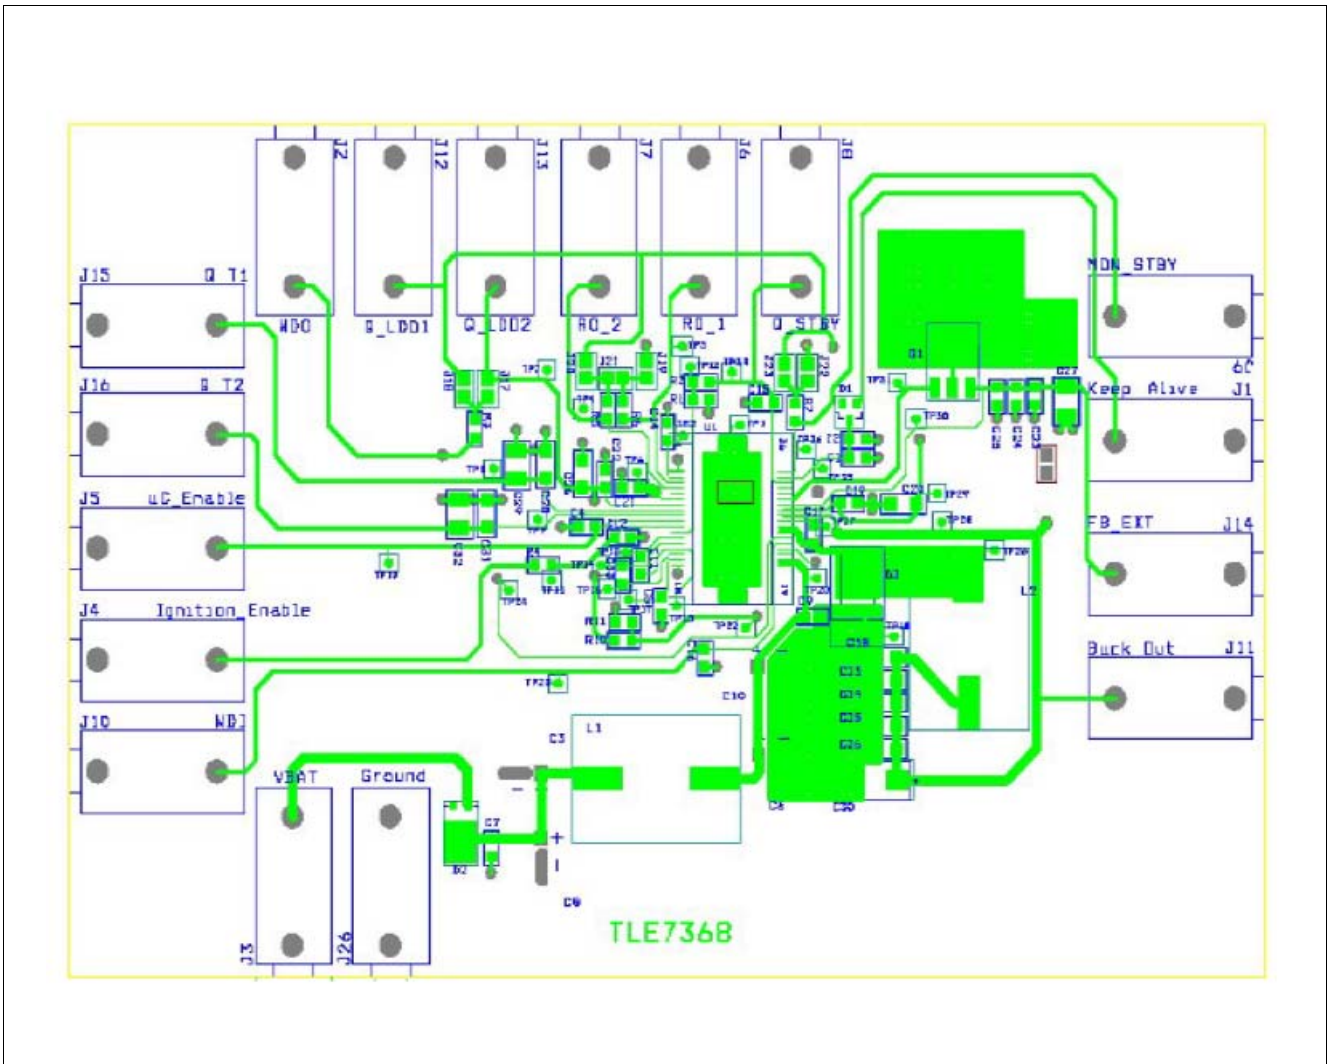

Figure 8 Layout of Demo Board
**Figure 8** shows the layout of the demo board. For detailed information please refer to the demo board description.